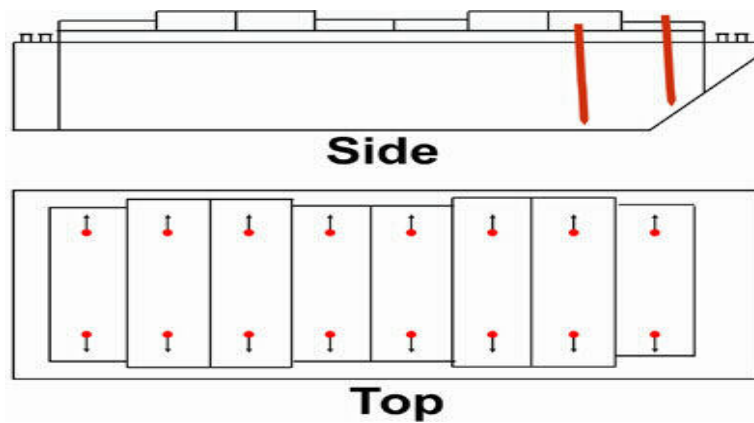

Figure 6 – Storage Bin:
4. Storage Bins should use automatic pneumatic or mechanical sampling equipment or an adequate probe. If this is not possible, collect 5 probes of feed or meal or 9 probes of whole grain according to the sampling pattern (Fig. 6). Collect about 0.5 lbs. from the bottom of the bin using an auger and combine this with the probed sample. If moisture accumulation is suspected, use the probe pattern (Fig. 7) to collect potentially moist material from the edges of the